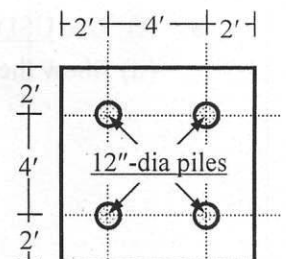

Fig. 2
- Fig. 2 shows a pile-group supporting 16"-dia circular column C_1' of the 6-storied structure shown in Fig. 1(b) and loaded as described in Question 2. If each pile in the group is 40'-long and has a diameter of 12", use WSD to calculate the
- Design LL if same reinforcements are used for FS_2 in Fig. 2(b).